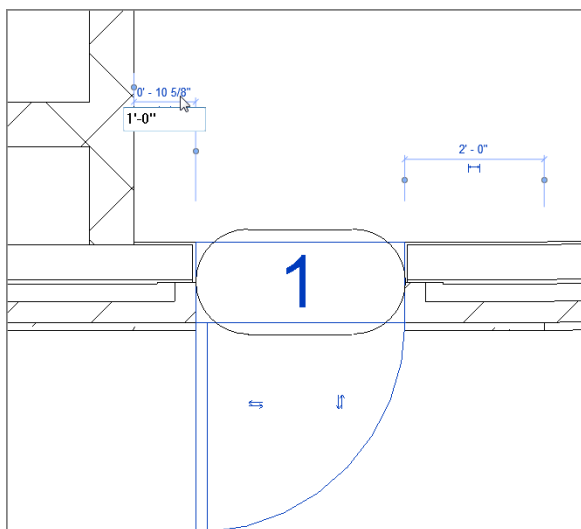

FIGURE 2.69: Changing the temporary dimension
3. As you know, in Revit anything that turns blue can be edited. Click the blue dimension that extends from the CMU wall, drag it to the right of the elevator shaft, and change it to 1'-0" (300mm) (see Figure 2.69).